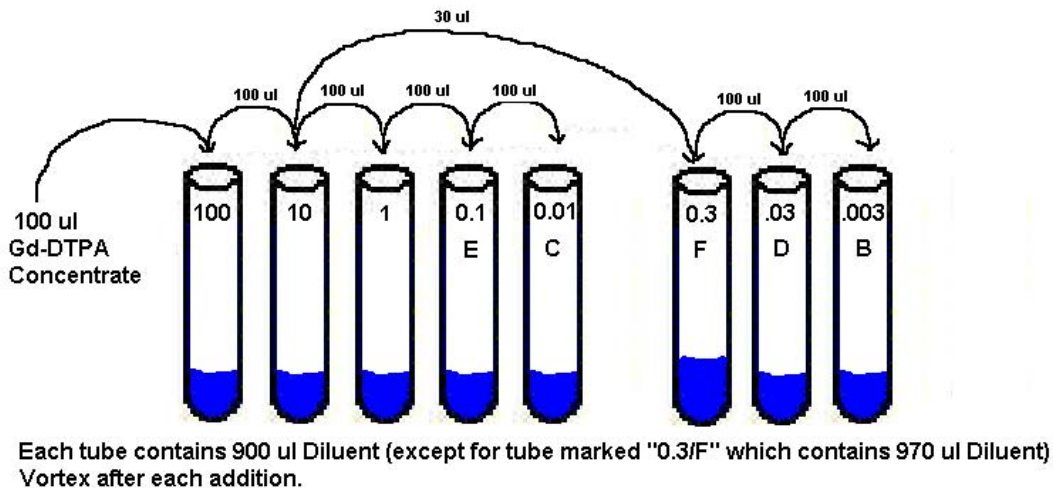

Figure 1: Schematic representation of Standard Curve preparation
1. Refer to Figure 1 for schematic. Set up five glass culture tubes in a row, leave a space, then three more glass culture tubes in a row.